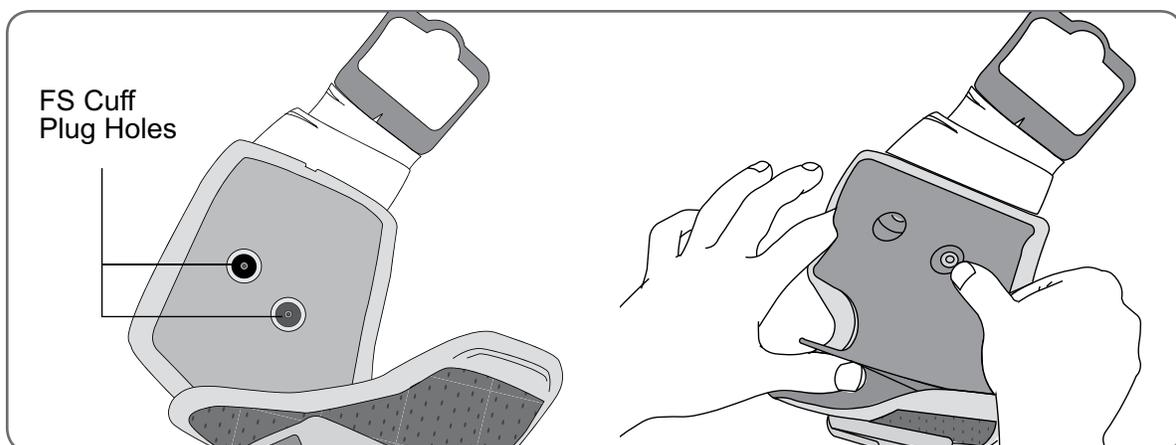

Figure 7-5: Snapping the personal panel buttonholes into the L300 FS Cuff plug holes. (Regular L300 FS Cuff shown).
- For the Regular Personal Panel snap the personal panel buttonholes into the L300 FS Cuff plug holes. See Figure 7-5.